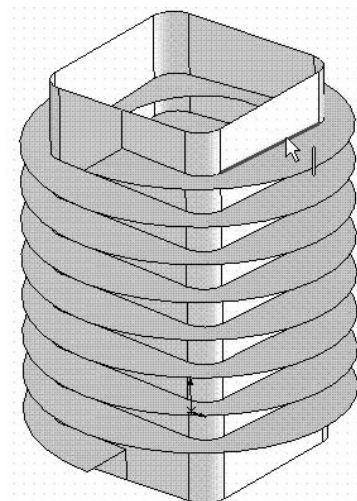

Figure 6 - Selections for creating Split Lines
17. Click on the Faces/Bodies to Split area of the Selections rollout. Now, press and hold the CTRL key down and select all faces of the extruded surface. Alternatively, you can also select the Surface-Extrude feature from the Feature Manager Design Tree. Make sure the faces of the extruded surface are selected, as shown in the Figure 6.